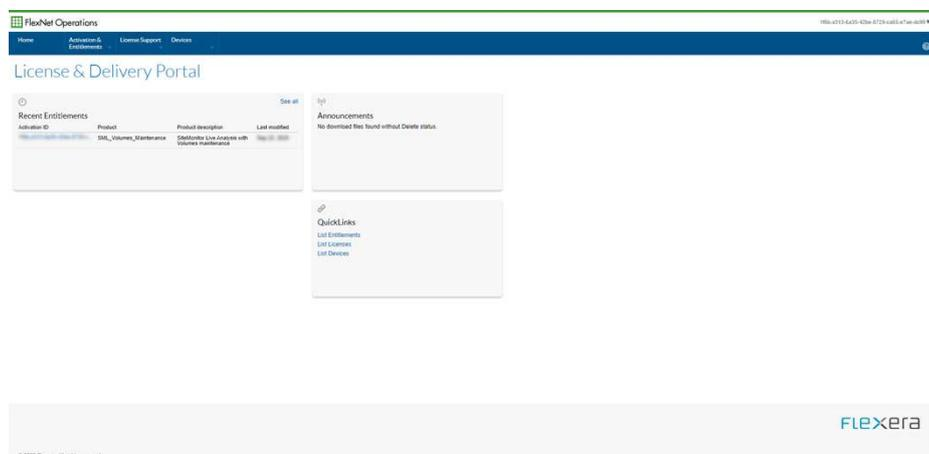

Figure 10. License and Delivery Portal.
14. If the login process is successful, this will open the License and Delivery Portal (Figure 10).